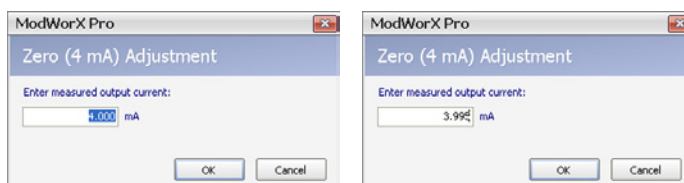
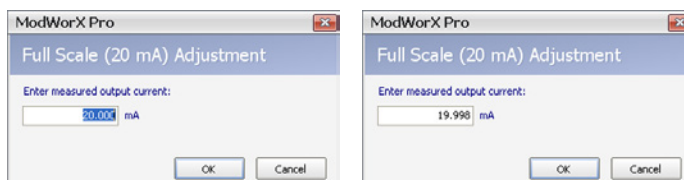
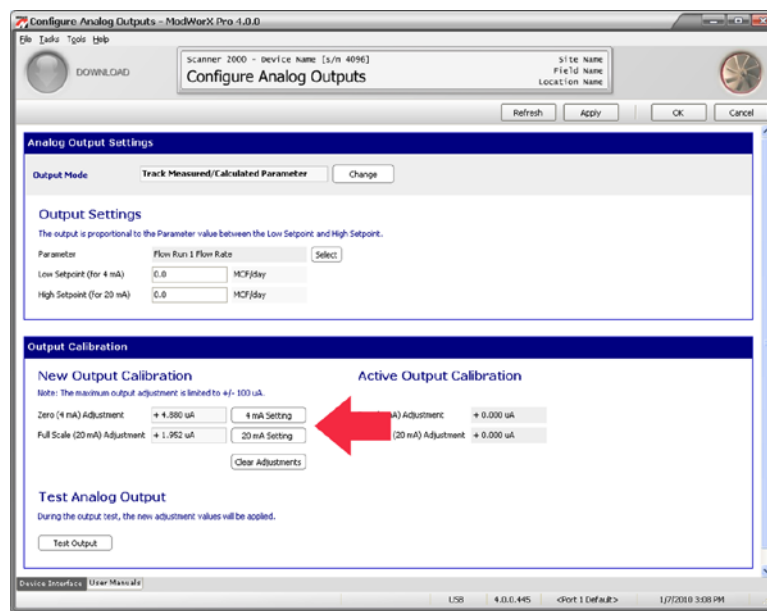

Figure 7.26
Figure 7.27
Figure 7.28
3. Under New Output Calibration, click on the **4 mA Setting** button to send a 4 mA signal from the Scanner to the receiving device. The Zero (4 mA) Adjustment dialog will appear (Figure 7.26, left).
4. Read the output value as read by the receiving device, and enter it in the screen (Figure 7.26, right). Click **OK** to calculate the adjustment. The adjustment will appear in the box next to the 4 mA Setting button (Figure 7.28).
5. Click on the **20 mA Setting** button to send a 20 mA signal from the Scanner to the receiving device. The Full Scale (20 mA) Adjustment dialog will appear (Figure 7.27, page 109, left).
6. Read the output value as read by the receiving device, and enter it in the screen (Figure 7.27, right). Click **OK** to calculate the adjustment. The adjustment will appear in the box next to the 20 mA Setting button (Figure 7.28).